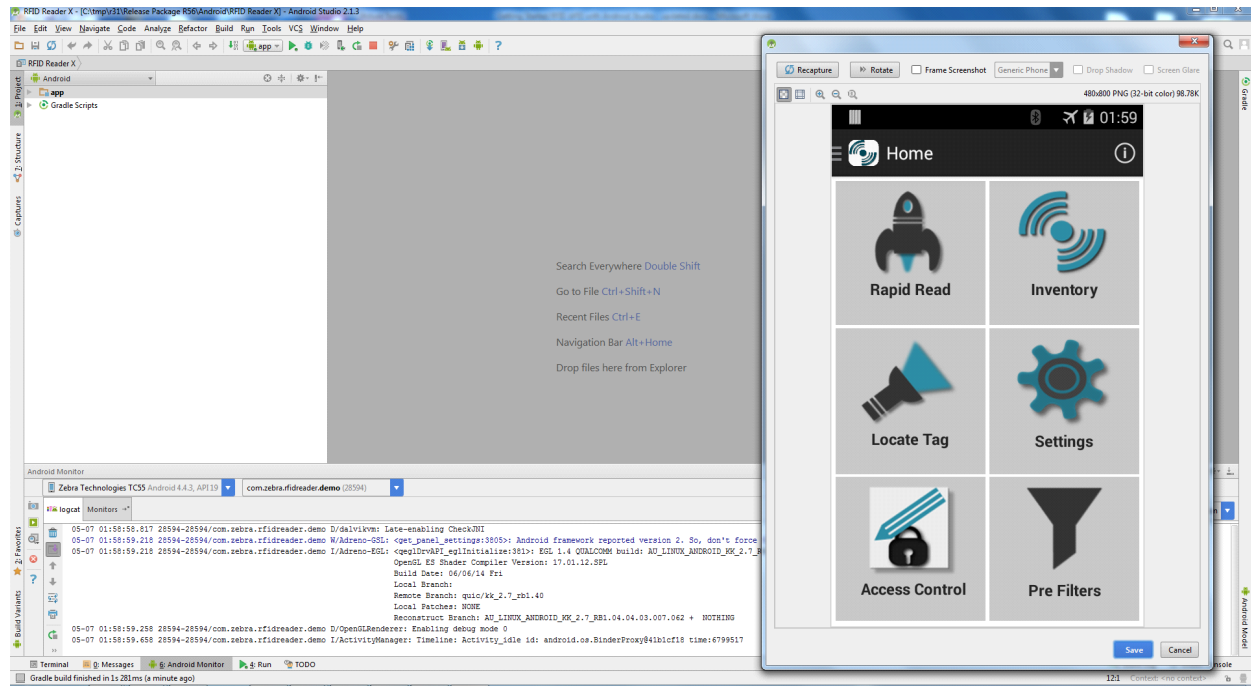

Figure 4-7 Demo Application
4. The screen in Figure 4-7 shows the captured image of the demo application running on an Android device.